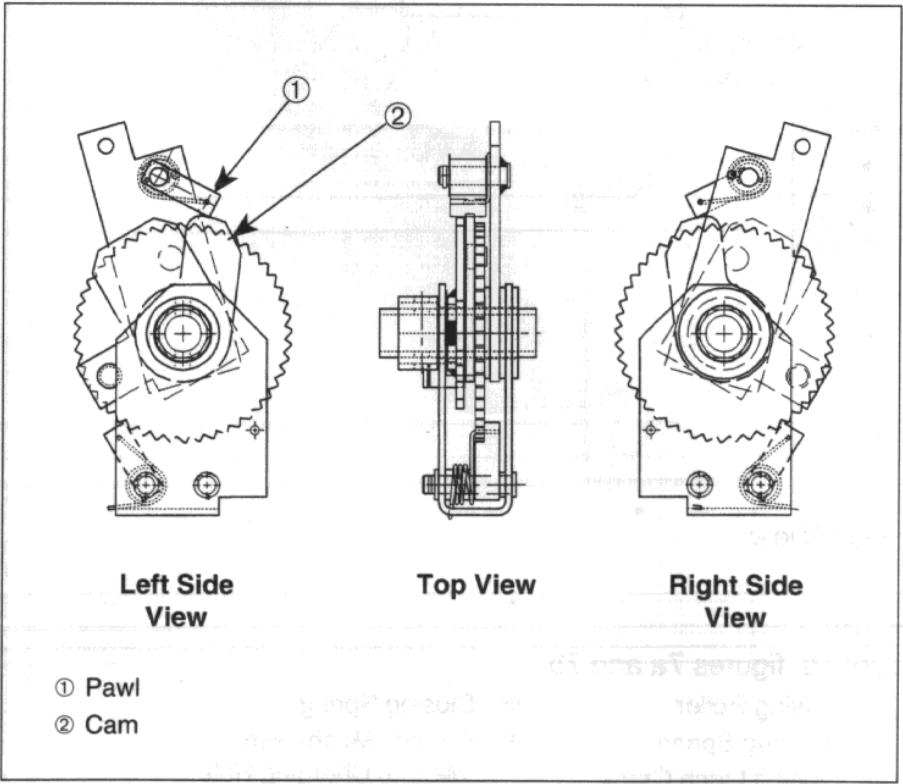
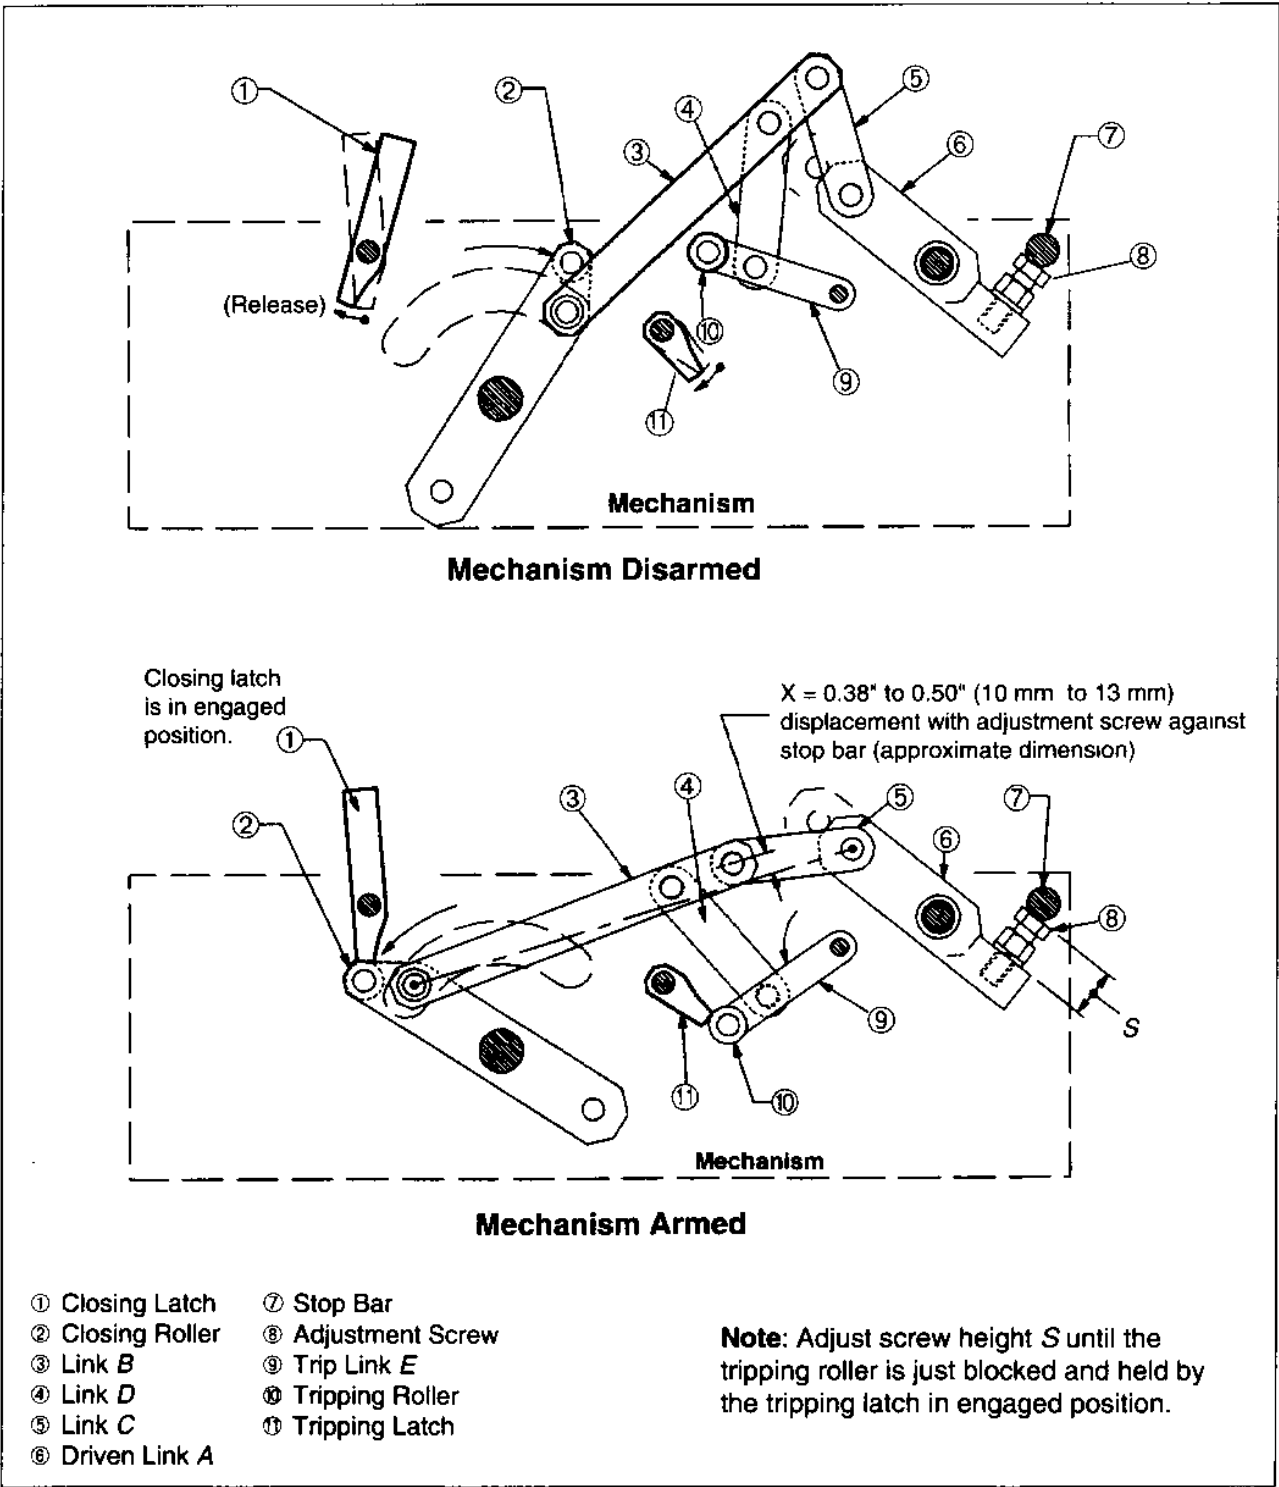

Figure 5: Ratchet charging mechanism
Figure 8: Mechanism in armed and disarmed positions
- The motor advances the ratchet mechanism (figure 5) and charges both the opening and closing springs simultaneously.
- At the end of the charging cycle, a cam (figure 5) in the ratchet mechanism lifts one pawl (figure 5) and the motion of the charging ratchet stops. At this point, the closing latch (figure 8, page 12) and tripping latch (figure 8) engage, and the motor circuit is opened by the motor limit switch (figure 7b, page 11).
- The trip linkage mechanism is in an “in line” position, illustrated in the “mechanism armed” diagram (figure 8).
- The closing solenoid disengages the closing latch from the closing roller (figure 8, page 12).
- The closing latch (figure 8) disengages, releasing the closing spring (figure 7a, page 10) from the closing roller (figure 8).
- The opening solenoid (figure 7b, page 11) disengages the trip latch (figure 8) from the tripping roller (figure 8) and releases the tripping linkage.
The tripping latch (figure 8) disengages and releases the tripping mechanism. This allows the tripping mechanism (figure 8) to collapse “out of toggle” and the switch operating shaft (figure 7a, page 10) to rotate clockwise.